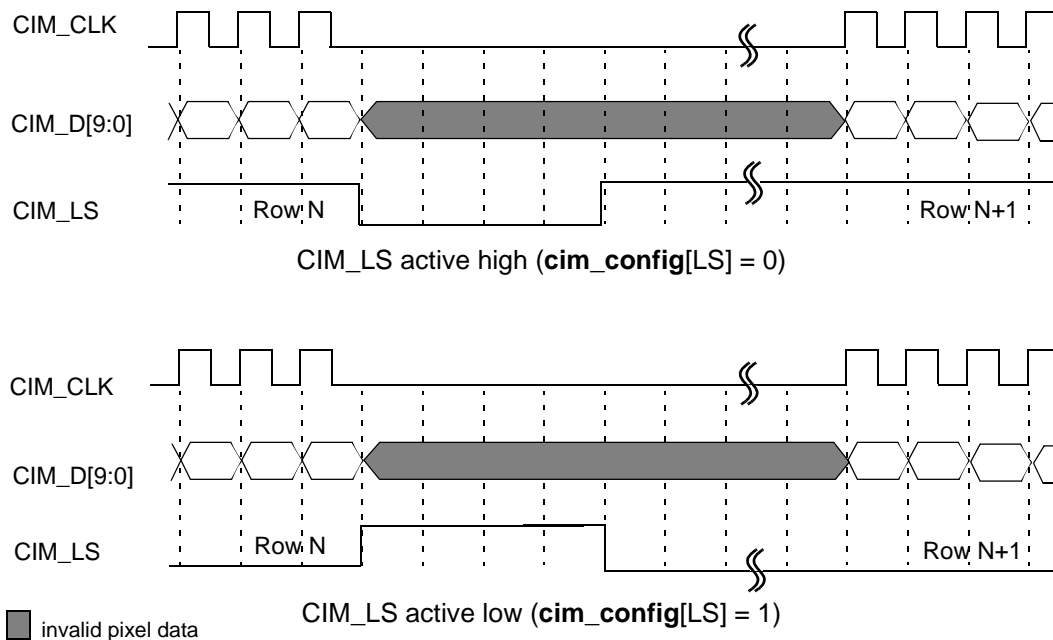

Figure 9-5. CIM_LS Pulse Mode (cim_config[PUL] = 1**)**
- In *pulse* mode (**cim_config[PUL] = 1**), CIM_LS pulses (negation followed by assertion) to indicate the end of each row as shown in Figure 9-5. The pulse width must be a minimum of four CIM_CLK cycles and must be synchronized to the active edge of CIM_CLK. Pulse mode corresponds to data-ready mode for CIM_CLK.